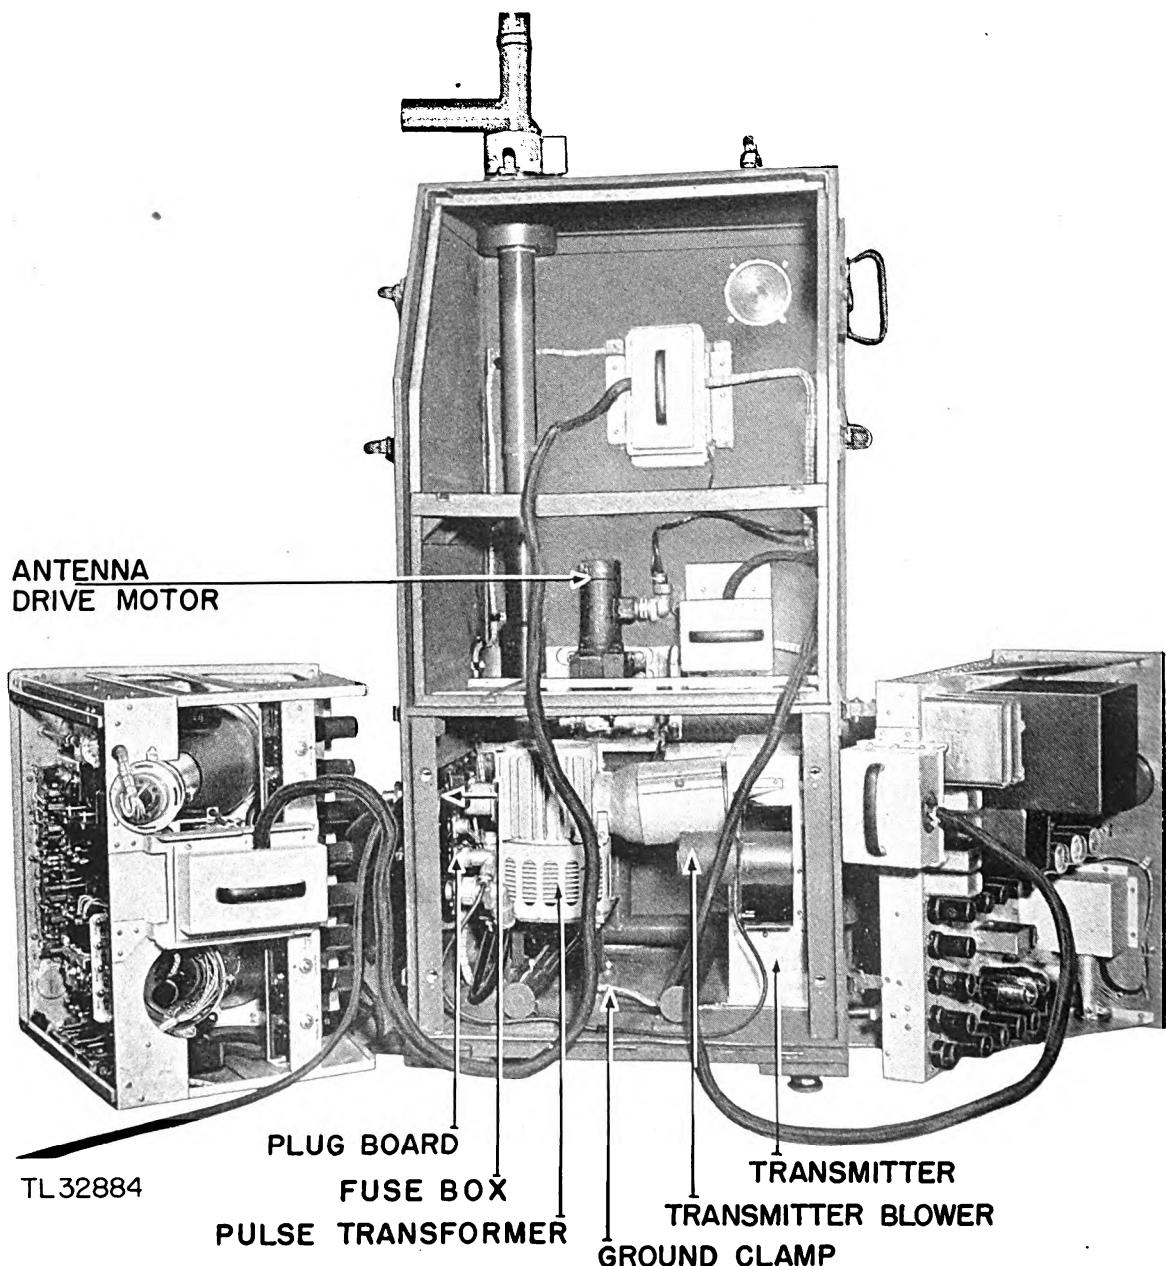

Figure 13. Console with chassis removed.
b. Clean. The cabinet, outside and inside, should be cleaned with a clean, dry cloth (fig. 13). Clean the glass of the meters and the control mounts with a clean cloth.